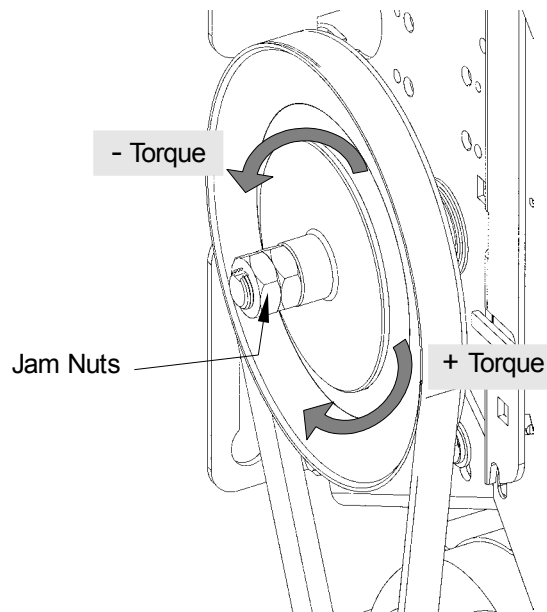

Figure 38 - Clutch Adjustment
1. Unlock the jam nuts with two (2) 15/16" keys, refer to Figure 38.